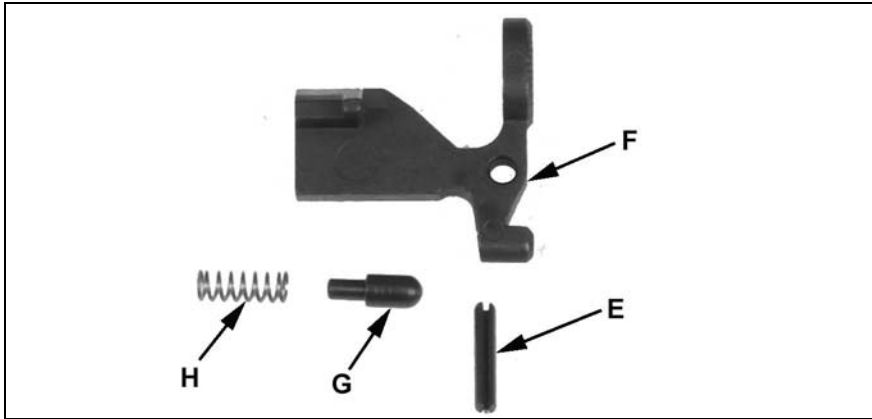

Figure 2
3. Remove roll pin (E), bolt hold open latch (F), detent (G) and spring (H) from left side of the receiver. See figure 2.